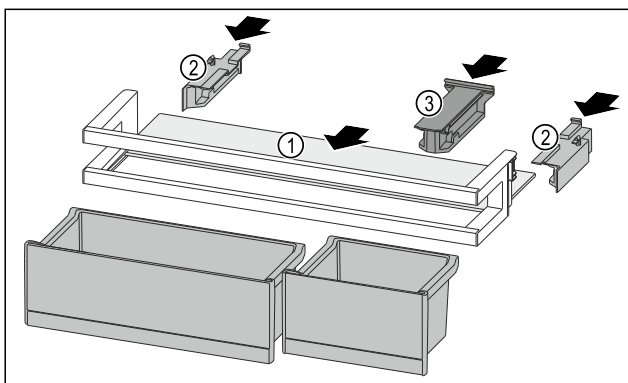

Fig. 183
- ▶ Push the shelf Fig. 183 (1) into the side recesses.
- ▶ Insert the side parts Fig. 183 (2).
- ▶ Insert the holding part Fig. 183 (3).